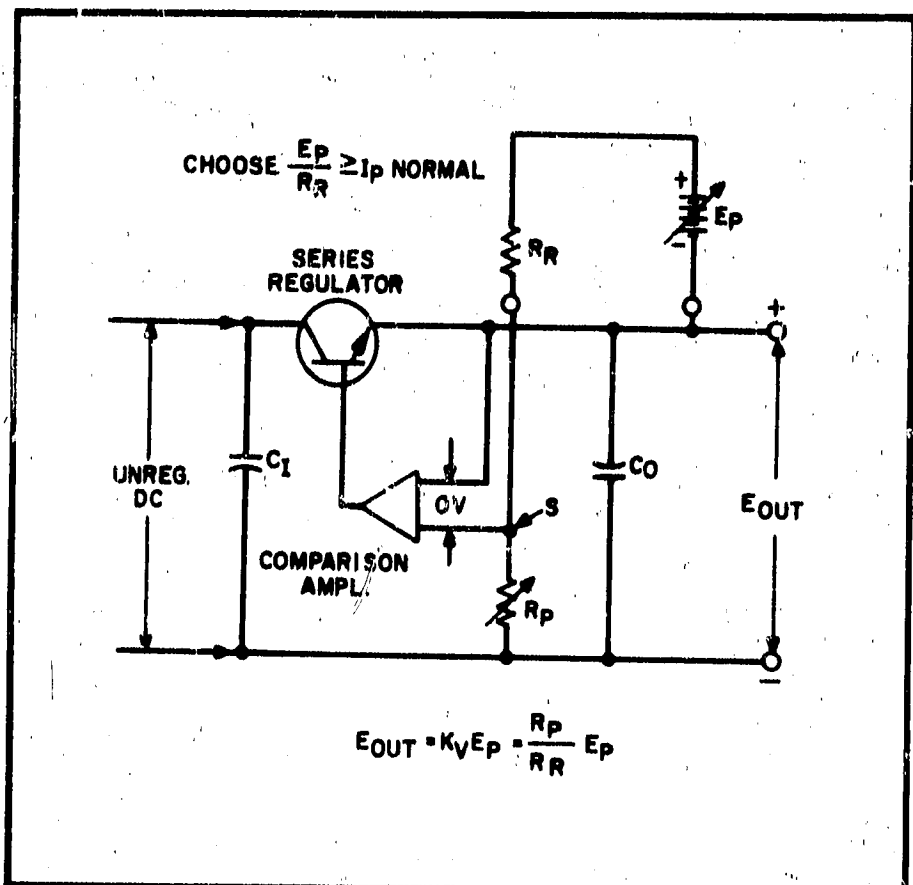
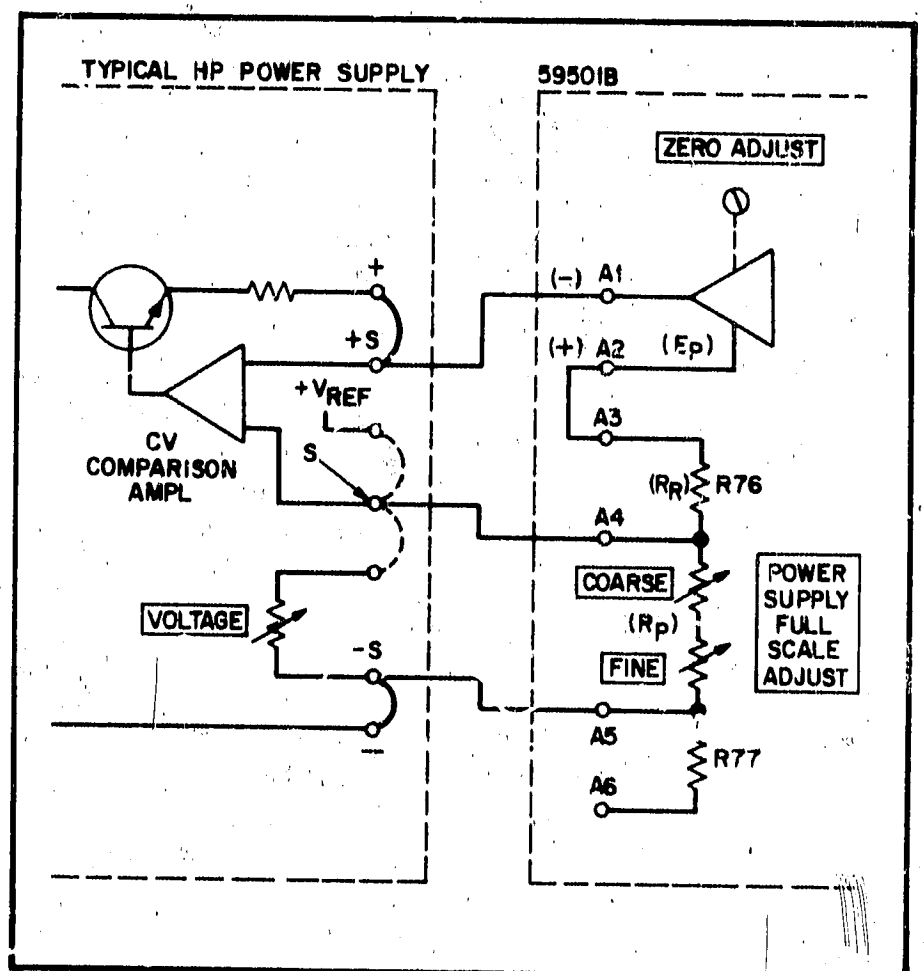

Figure 3-4. Voltage Programming with Variable Voltage Gain
Figure 3-5. Typical Connections for CV Programming
3-39 Figure 3-4 illustrates the method by which a power supply's constant voltage output can be programmed using an external voltage with a voltage gain dependent upon the ratio of R_P to R_R . Note that this method is no different from the circuit normally used for constant voltage control of the output except that an external reference (the programming voltage source) has been substituted for the internal reference. On most supplies, external terminals are available so that the connections shown in Figure 3-4 can be accomplished without any internal wiring changes. In all HP remotely programmable power supplies, the summing point S is made available, and the configuration of Figure 3-4 can always be accomplished using the external programming voltage source E_P and external precision wire-wound resistors R_P and R_R . (R_R should not exceed 10k.) As indicated by the equation in Figure 3-4, R_P can be selected so that the resulting voltage gain is either less or greater than unity. It is possible to use the front panel control on the supply as the voltage gain control R_P .
3-40 **Constant Voltage.** Figure 3-5 illustrates the connections required for the 59501B to program the constant voltage (CV) output of a typical HP power supply. Note the similarities between Figures 3-4 and 3-5. The 59501B includes R_R (R76), R_P (COARSE and FINE POWER SUPPLY FULL SCALE ADJUST), and E_P (59501B output between terminals A1 and A2). The extra resistor (R77) between terminals A5 and A6 is used only when programming power supplies above 300 volts.
3-41 As shown in Figure 3-5, the supply's internal reference voltage ($+V_{REF}$) and VOLTAGE control are disconnected (dotted lines) and are replaced with the 59501B's output voltage and POWER SUPPLY FULL SCALE ADJUST. Note that in the unipolar mode, 59501B output terminal A1 is negative with respect to A2. This polarity must be complied with when making connections. The connections shown in Figure 3-5 are typical for most supplies.